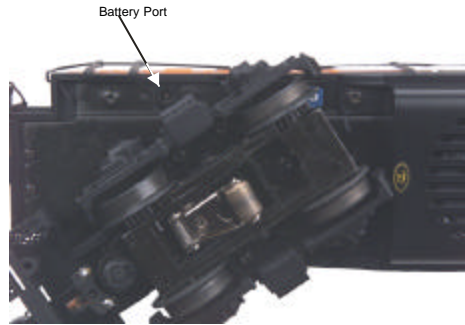

Figure 11. Battery Charger Port
- Use M.T.H.'s battery recharger (sold separately) that plugs into a wall outlet and a special port under the engine to recharge the battery overnight without leaving it on the track. See Figure 11 on page 15.